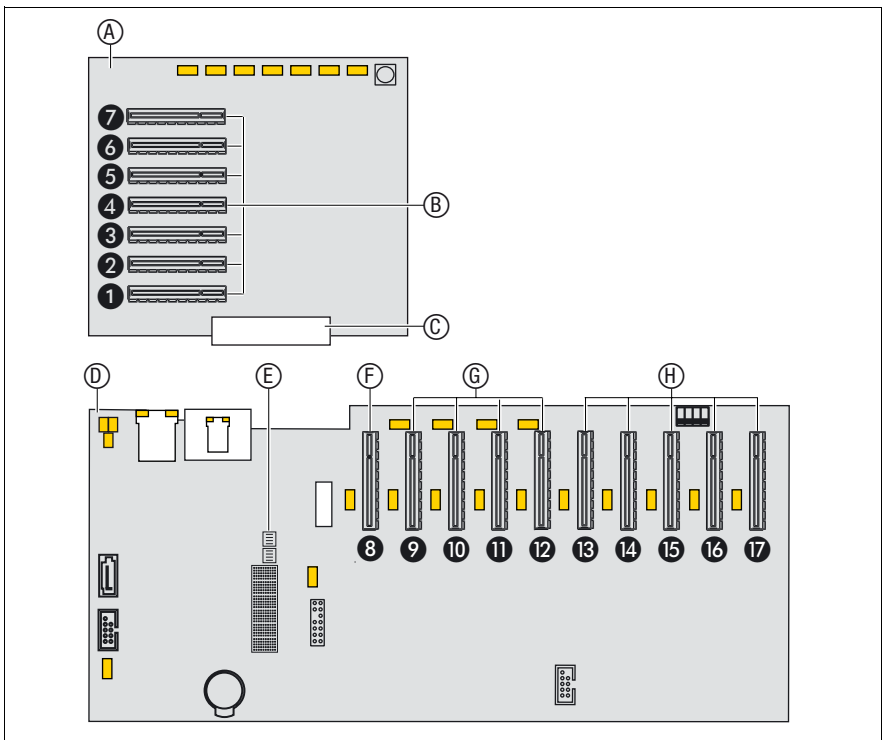

Figure 244: PCIe slot assignment
Figure 244 shows the PCIe slot configuration. Expansion cards can be installed in the PCIe slots on the PCI Riser (A) and on the baseboard (D). The PCI Riser is connected to the baseboard via the connectors C and E.